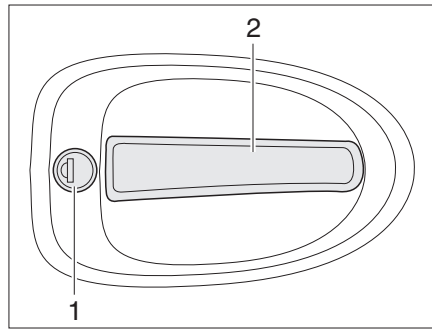

Fig. 42 Door lock of conversion door, outside
- Insert the key into locking cylinder (Fig. 42,1) and turn until the door lock is unlatched.
- Pull on the handle (Fig. 42,2). The door is open.
- Insert the key into locking cylinder (Fig. 42,1) and turn until the door lock is engaged.